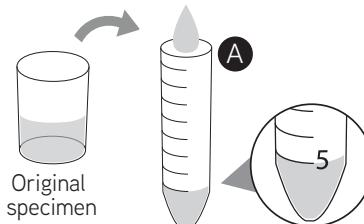

Fig. 2 - Specimen transfer to the REACTION TUBE (A)
##### Transfer of the specimen to the REACTION TUBE (A) (Fig. 2):
1. Open the REACTION TUBE (A).
2. Using a sterile pipette transfer 5mL of the original specimen to the REACTION TUBE (A).